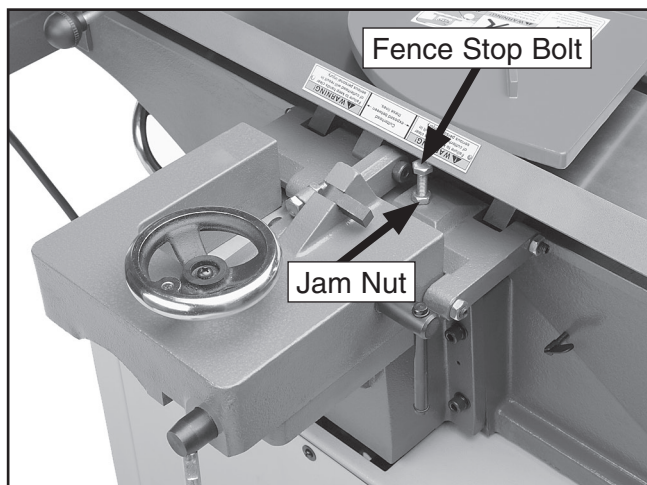

Figure 63. 45° outward fence stop bolt.
3. Loosen the jam nut on the 45° outward fence stop bolt (**Figure 63**).